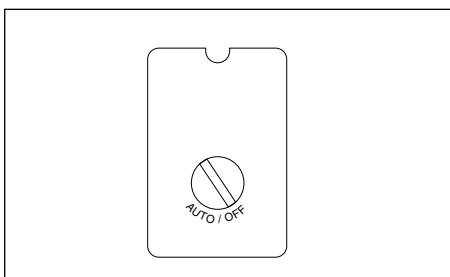

Figure 6
1. Turn switch to OFF position and plug in power cord (Fig. 6).
2. Turn switch to AUTO position to run unit (Fig. 6).